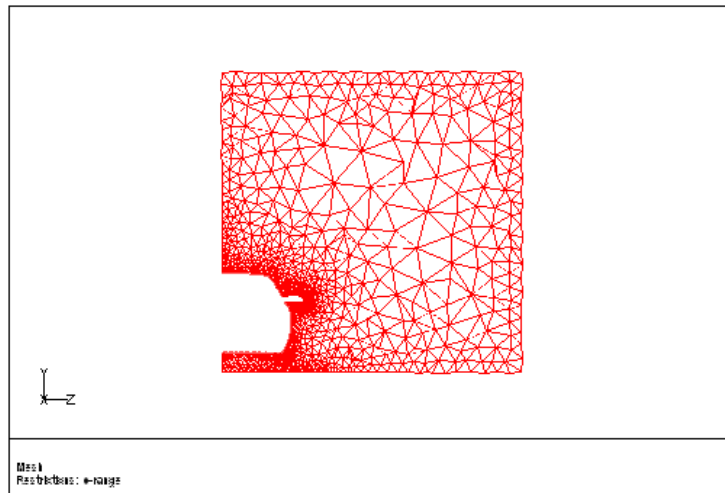

Figure 2.8: Slide of Cells at $X = -0.37$
- (a) Display the mesh on a slide through the mirror and the car ($x = -0.37$). See Figure 2.8.